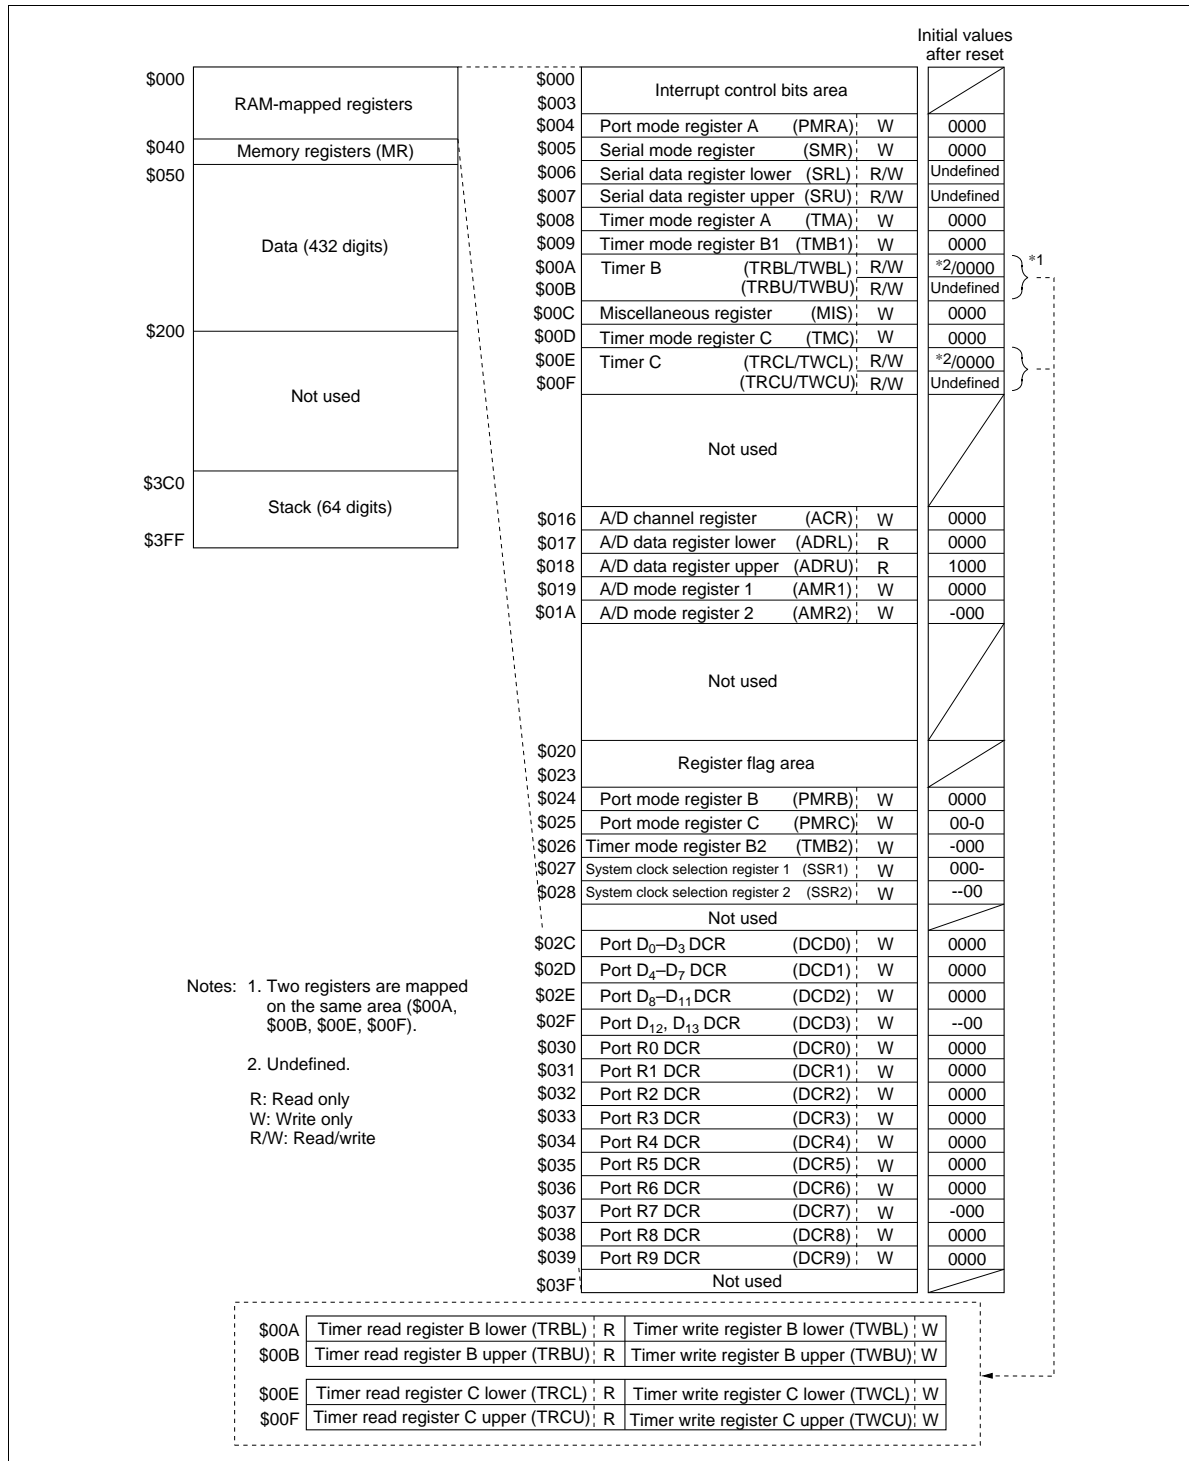

Figure 2 RAM Memory Map
The MCU contains 512-digit \times 4 bit RAM areas. These RAM areas consist of a memory register area, a data area, and a stack area. In addition, an interrupt control bits area, special function register area, and register flag area are mapped onto the same RAM memory space labeled as a RAM-mapped register area. The RAM memory map is shown in figure 2 and described below.
This area is used as mode registers and data registers for external interrupts, serial interface, timer/counters, A/D converter, and as data control registers for I/O ports. The structure is shown in figures 2 and 5. These registers can be classified into three types: write-only (W), read-only (R), and read/write (R/W). RAM bit manipulation instructions cannot be used for these registers.